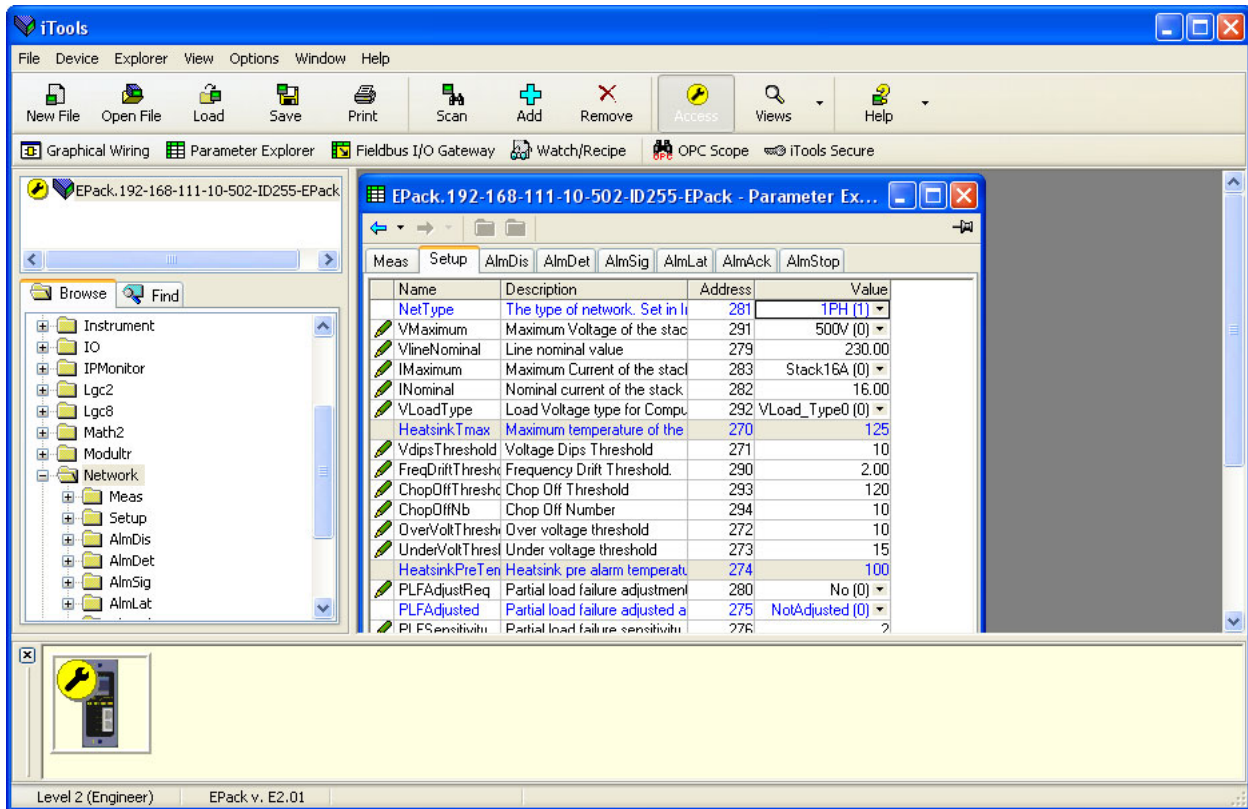
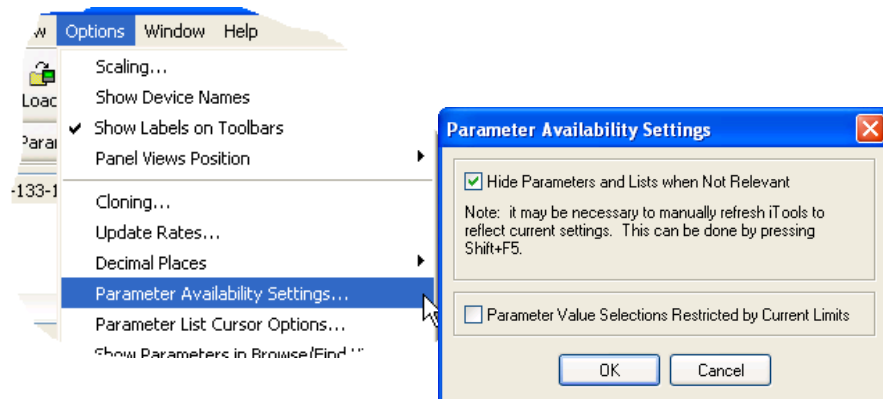

Figure 140 Parameter table example
Figure 143 Show/Hide parameters
In each case the function block parameters appear in the iTools window in tabular form, such as the example in Figure 140.
- Parameters in blue are non-editable (Read only). In the example above all the parameters are read only. Read/write parameters are in black and have a 'pencil' symbol in the 'read/Write access column at the left edge of the table. A number of such items are shown in Figure 140, above.
- Columns. The default explorer window (Figure 140) contains the columns 'Name', 'Description', 'Address' and 'Value'. As can be seen from Figure 143, above, the columns to be displayed can be selected, to a certain extent, using either the 'Explorer' menu or the context menu. 'Limits' have been enabled for the example above.
- Hidden Parameters. By default, iTools hides parameters which are considered irrelevant in the current context. Such hidden parameters can be shown in the table using the 'Parameter availability' settings item of the options menu (Figure 143). Such items are displayed with a shaded background.